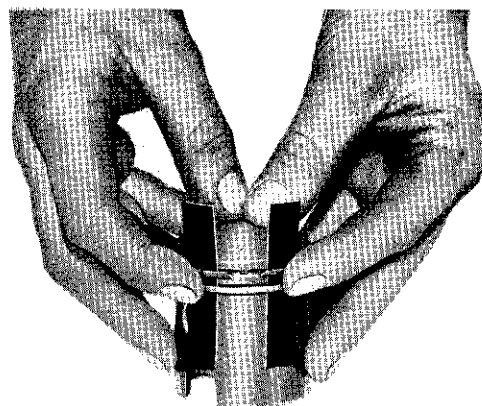

Fig. L23
- (b) Insert 3 thin strips of metal between the piston and the rings. Insert the strips one at a time and work them around the piston until they are equally spaced. The rings may then be eased up over the strips until they clear the piston (Fig. L23).